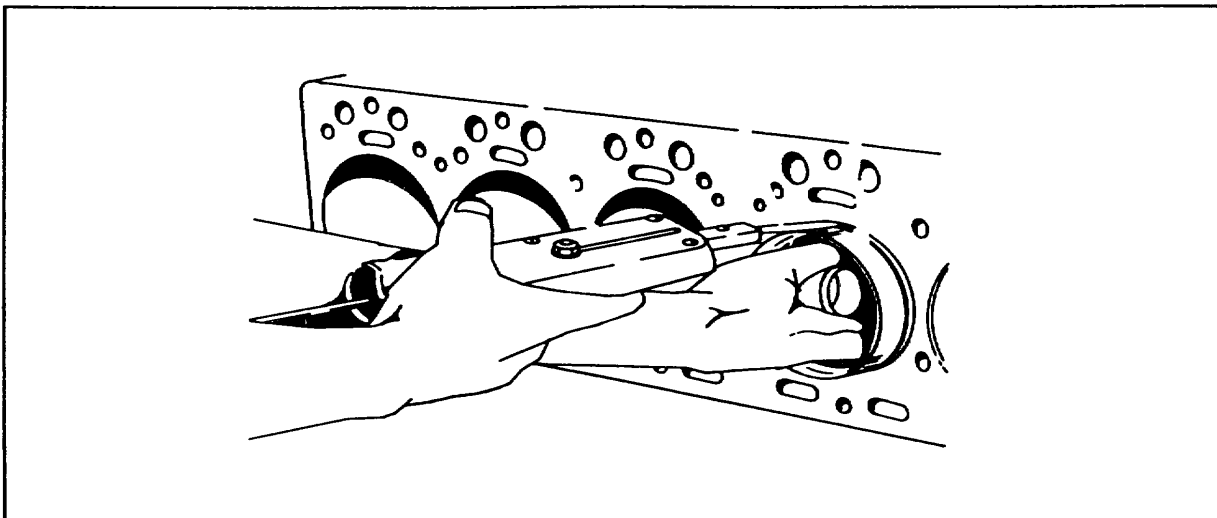

Figure 6-2. Checking Piston to Cylinder Fit
3. Attach spring scale to feeler stock and pull scale and feeler stock evenly from cylinder. Proper fit requires 5-to-10-pound pull. (See figure 6-2).